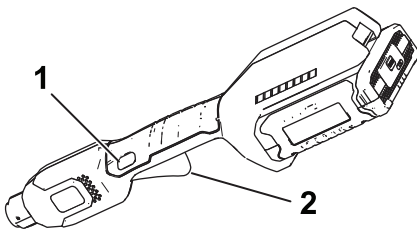

Figure 8
4. To start the trimmer, press the lockout button, then squeeze the variable-speed trigger (Figure 8).